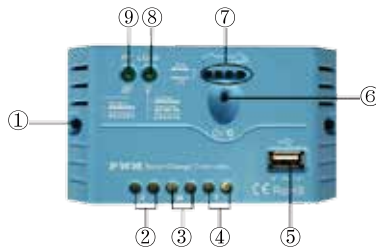

Figure 1 Product Feature
(1) Connect components to the charge regulator in the sequence as shown in Figure 1 and pay attention to the “+” and “-”. When disconnecting the system, the order will be reversed.